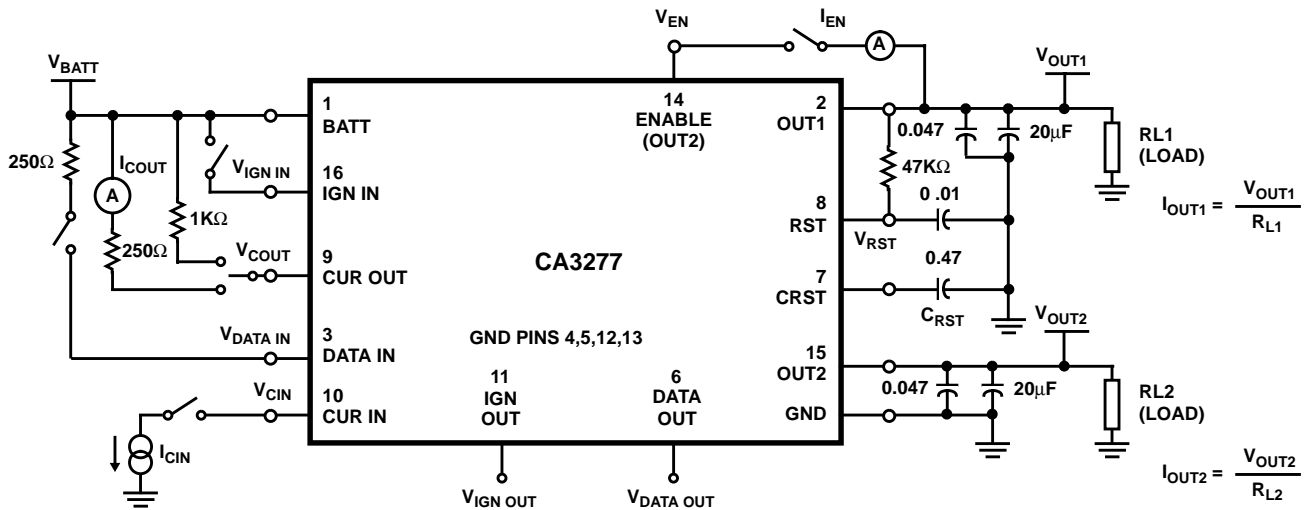

FIGURE 4. CHARACTERISTIC EVALUATION AND TEST CIRCUIT
**Electrical Specifications**  $T_A = -40^\circ\text{C}$  to  $+85^\circ\text{C}$ ,  $V_{BATT} = 13.5\text{V}$ , ENABLE ON ( $V_{EN} = 3.5\text{V}$ ), IGN IN connected to BATT, OUT1 and OUT2 bypassed with 20μF to GND, DATA IN connected through 250Ω to BATT, LOADS: OUT1 = 50mA, OUT2 = 80mA; Unless Otherwise Specified (Refer to Figure 4 Test Circuit)
**Electrical Specifications**  $T_A = -40^{\circ}\text{C}$  to  $+85^{\circ}\text{C}$ ,  $V_{\text{BATT}} = 13.5\text{V}$ , ENABLE ON ( $V_{\text{EN}} = 3.5\text{V}$ ), IGN IN connected to BATT, OUT1 and OUT2 bypassed with  $20\mu\text{F}$  to GND, DATA IN connected through  $250\Omega$  to BATT, LOADS: OUT1 = 50mA, OUT2 = 80mA; Unless Otherwise Specified (Refer to Figure 4 Test Circuit) **(Continued)**